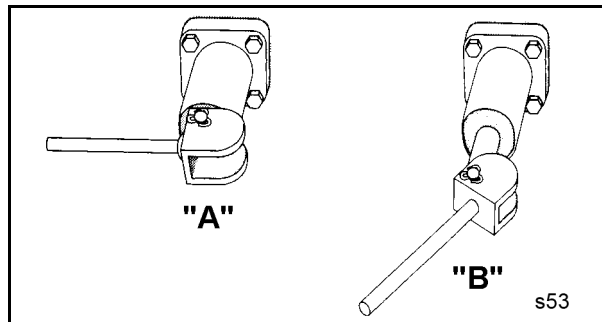

Fig. 489 Example: Transport safety device
- Fasten the lifting gear and loosen the transport safety devices (Fig. 489).
Caption (Fig. 489)